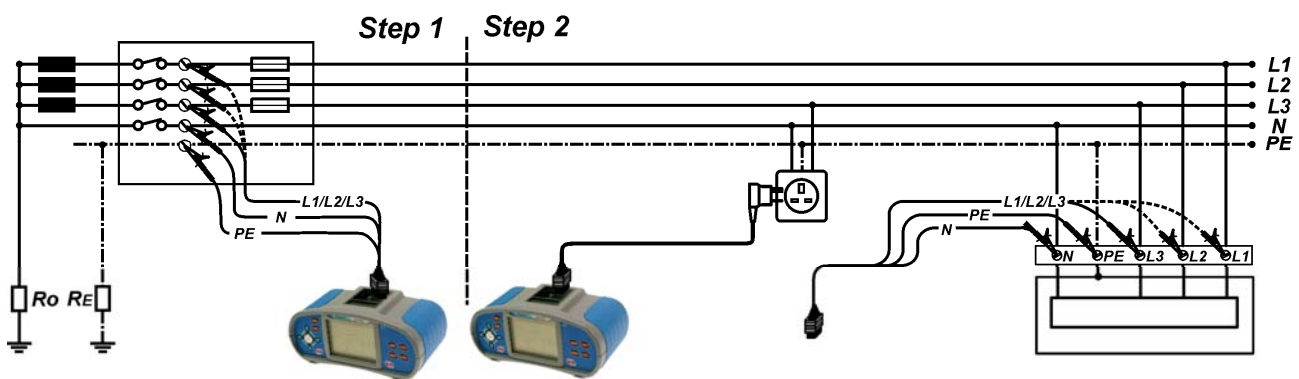

Figure 5.42: Line-Neutral or Line-Line voltage drop measurement – connection of plug cable and 3-wire test lead
- ❑ **Connect** the test leads to the origin of electrical installation (see figure 5.42).